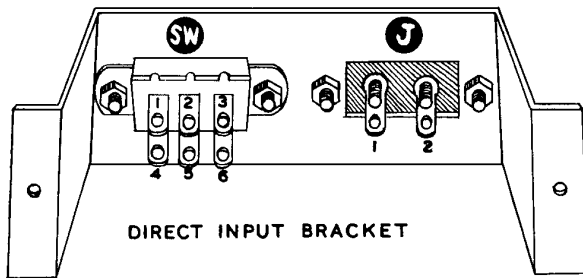

Figure 5
- () Install binding post bases in each of the six holes at the bottom of the panel. Refer to Figure 5 and use the insulator bushings with a #6 solder lug under the nut. Position the solder lugs as shown in Pictorial 5 at positions SL1, SL2, SL3, SL4, SL5 and SL6.